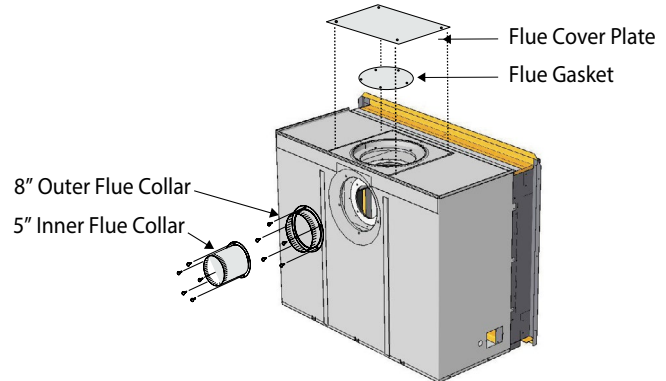

Figure 9a. Flue cover and collar installation, *Rear Vented fireplace.*
3. Install the (removed) Rear flue cover and gasket material, to the Top vent outlet. Fasten the cover with included hardware, as illustrated **Figure 9a**.
4. Install the (5" and 8") collars to the rear vent outlet using the included hardware, as illustrated **Figure 9a**.